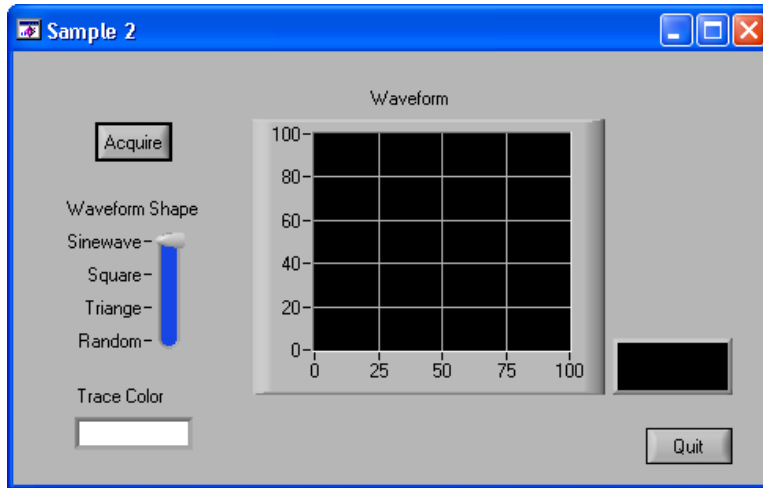

Figure 2-4. sample2.uir Panel when Running
2. Run the project by selecting **Run»Debug sample2_dbg.exe** or by pressing `<Shift-F5>`. LabWindows/CVI launches the GUI shown in Figure 2-4 after the program compiles and runs.